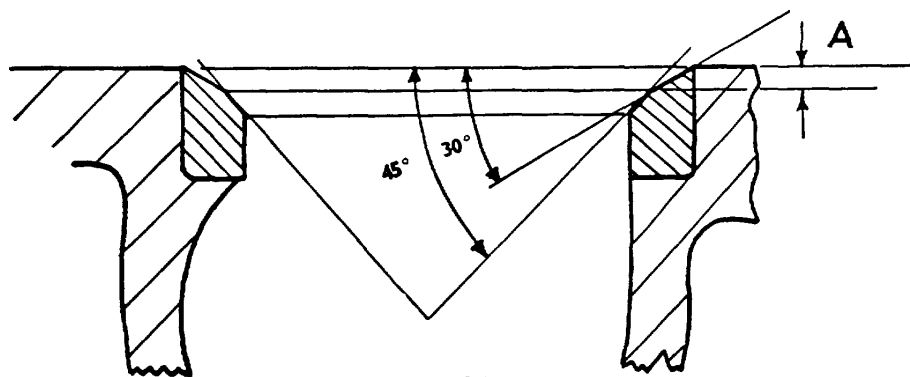

Fig. E.8.
5. Once again using the valve bore as a pilot, machine the "flare" to the dimensions given in Fig. E.8.
- (a) If the insert is in a serviceable condition, machine to the dimensions given in Fig. E.8 and continue as in stages 6 and 7.